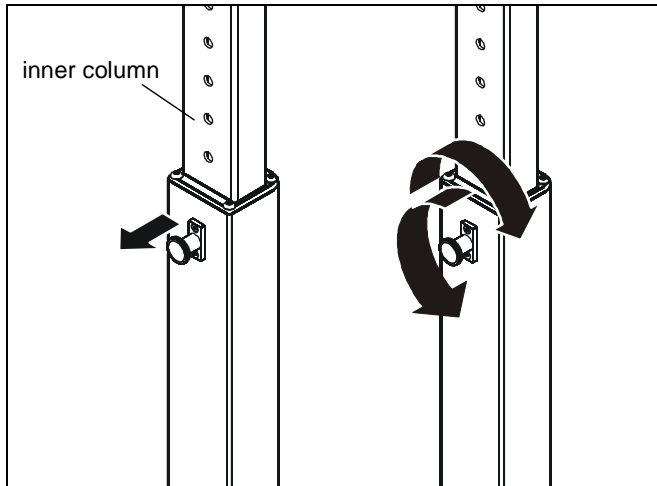

Figure 8
1. Lift up on the inner column of center post. (See Figure 8)
2. Pull out knob on the center post and turn 90° in either direction to disengage the locking mechanism. (See Figure 8)
3. Raise the inner column and turn the knob 90° in either direction to engage the knob and lock the column in place. (See Figure 8)